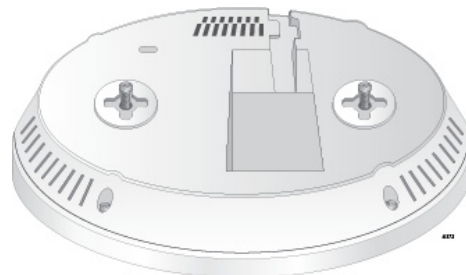

Figure 22. The Access Point with Two Screws Attached
5. Remove the mounting base from the access point. See Figure 22.